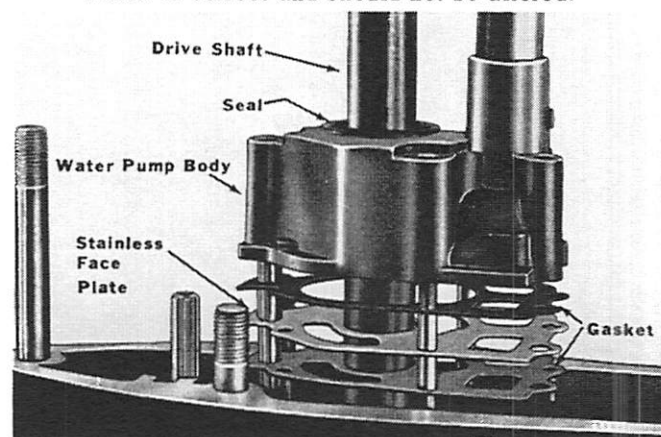

Figure 11. Installing Water Pump Assembly (New Style)
4. Install water pump base-to-face-plate gasket and replace stainless face plate. (Figure 11)
7. Insert stainless water pump cartridge in water pump body and place water pump body-to-face-plate gasket on water pump body. (Figure 11)
8. Slide water pump body assembly over drive shaft and impeller. (Figure 11)